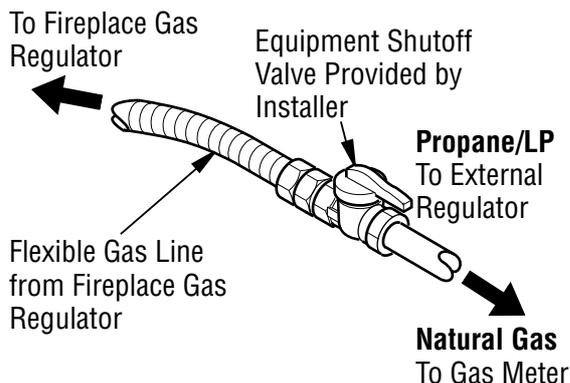

Figure 20 - Attaching Flexible Gas Lines Together
4. Attach the flexible gas line to gas supply (see **Figure 20, Page 16**). Check tightness of flexible gas line attached to gas regulator of fireplace (see **Figure 20, Page 16**).
NOTICE: Most building codes do not permit concealed gas connections. A flexible gas line is provided to allow accessibility from the fireplace (see *Figure 20*). The flexible gas supply line connection to the equipment shutoff valve should be accessible.